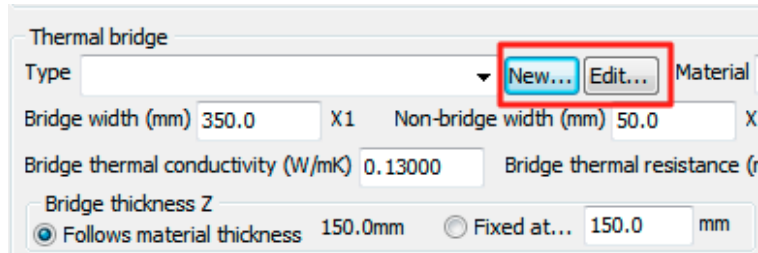

Figure 4: The New and Edit buttons for user-defined thermal bridge defaults
3. In the *Thermal bridge* section click the **New** button (Figure 4).